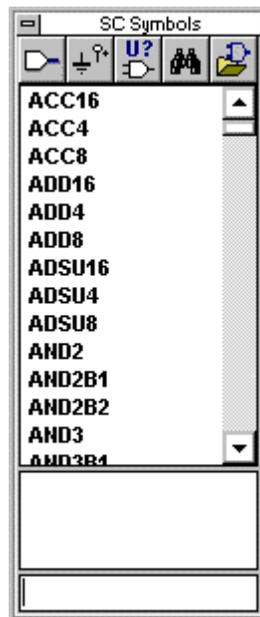

Figure 3. The Symbols Toolbox.
- 2) Once the program has started, click on the “Symbols Toolbox” icon on the vertical toolbar. This will open the “SC Symbols” box (see Figure 3), which contains